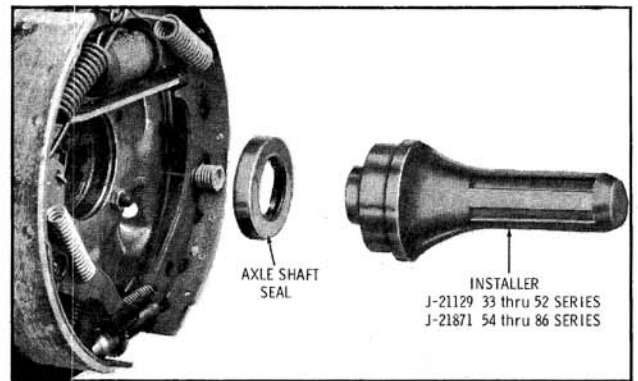

Fig. 10-12 Installing Axle Shaft Seal
4. Install seal as shown in Fig. 10-12. Make sure seal is fully seated.